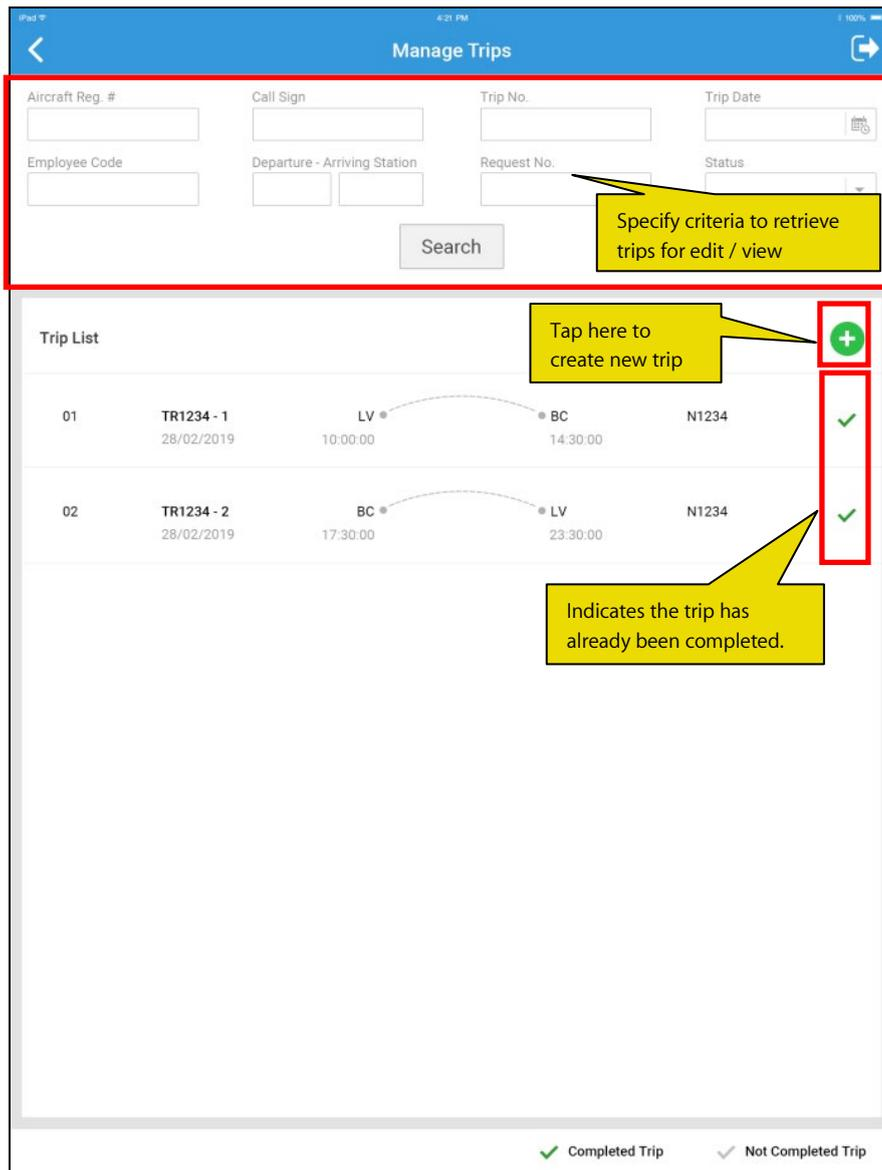

Figure 4.9: The screen for managing trips
1. Tap **Trip List** under **Trip Details**. The **Manage Trips** page appears. See Figure 4.9.